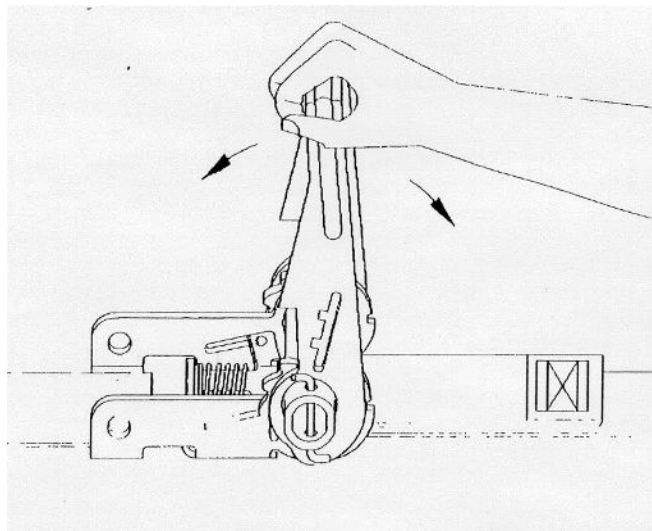

Fig. 2
- 6) Tighten the strap by gripping the ratchet handle and pumping it until the strap is sufficiently snug (to prevent the unit from moving when in use). A minimum of 2 full wraps of webbing should be around the winder bar after tightening. Care should be taken not to place an excessive number of wraps around winder bar as this may cause jamming. (see Fig. 2).
- 7) Upon completion of step 6, pull back on the spring loaded handle pawl and rotate the ratchet handle fully counterclockwise ensuring it is in the full down position. (Fig. 2).